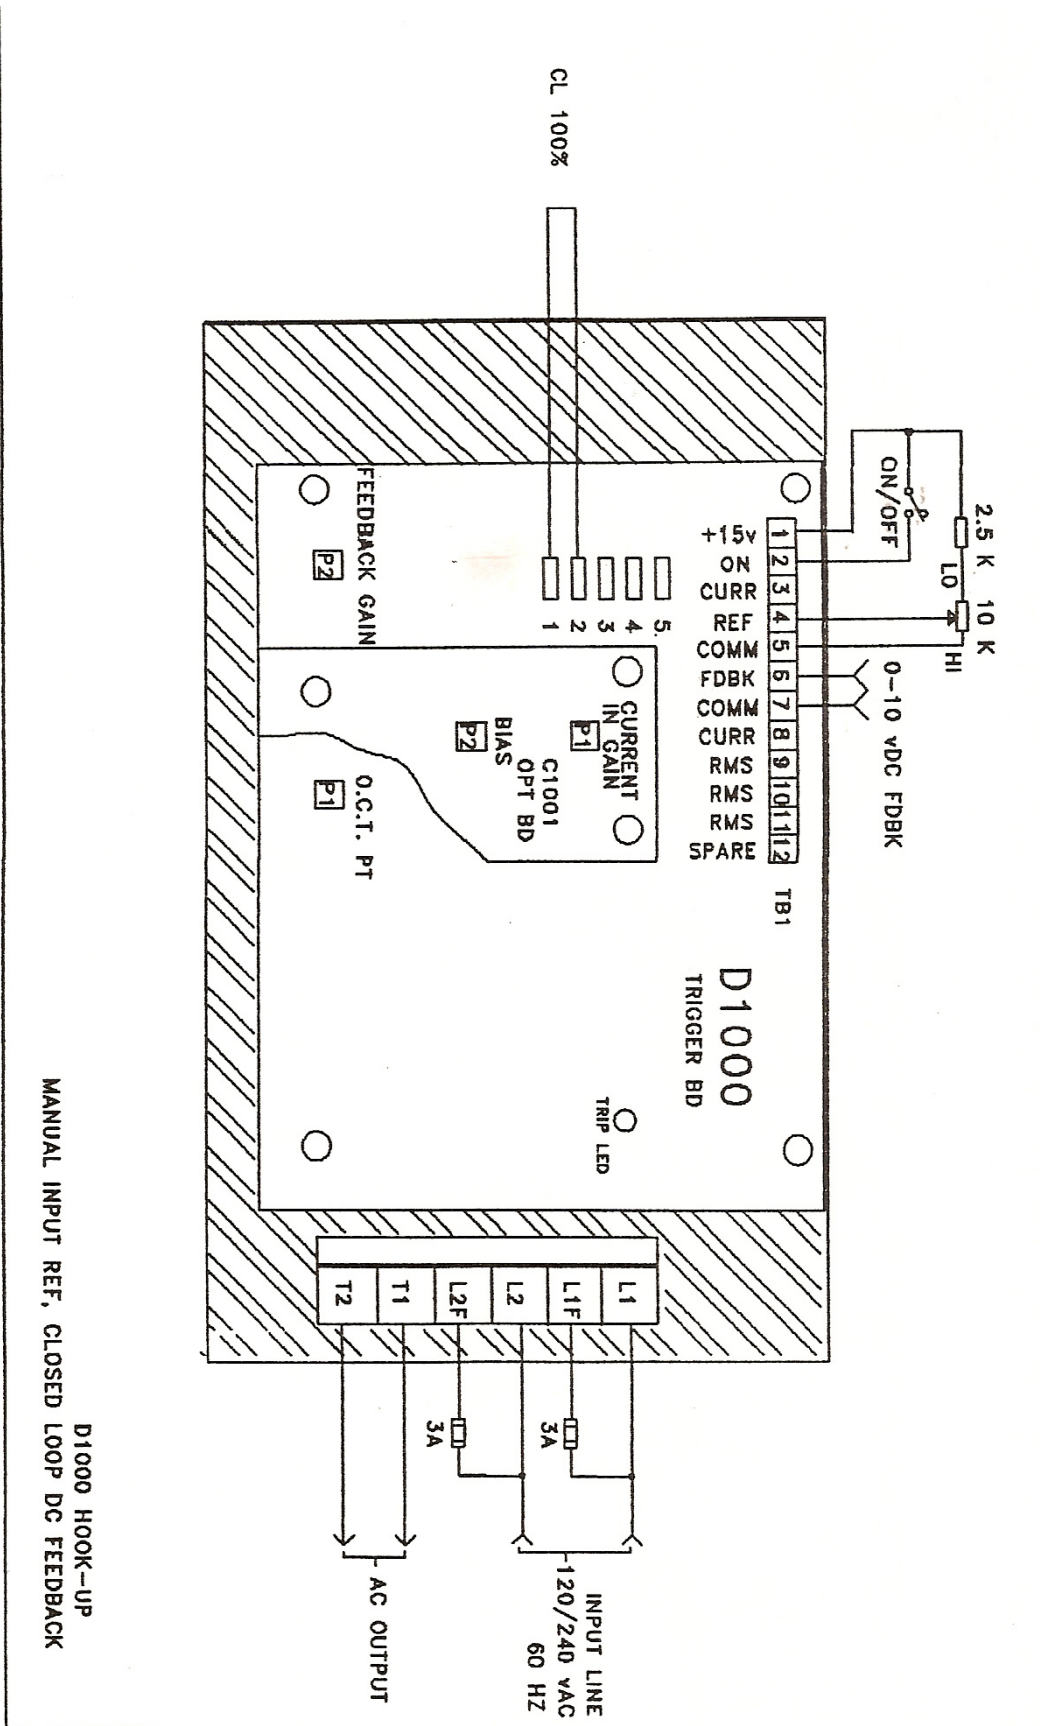

FIG. 4
1. Apply full feedback voltage 1 VDC to 10VDC at TB1 Terminal 6 (see Figure 4);